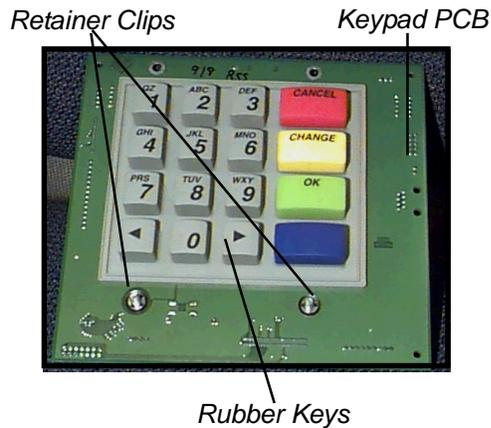

Figure 4a. Retainer Clips Installed on Bottom Keypad Mounting Screws.
Use the two Retainer Clips (provided) to hold the two bottom mounting screws to the SPED Keypad PCB. These clips must be between the SPED Keypad PCB and the Cash Dispenser front housing when the board is installed! See Figures 4a and 4b.
6. Install the SPED Keypad PCB Assembly and secure in place with the 4 screws and washers removed in Step 4. Use the two Retainer Clips to hold the bottom mounting screws to the SPED board, as shown in Figure 4a.